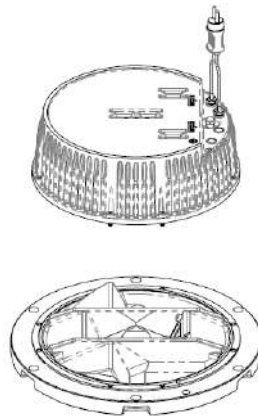

Figure 5-4
- Separate the upper cover and inner cover of the lighting fixtures (Figure 5-4).